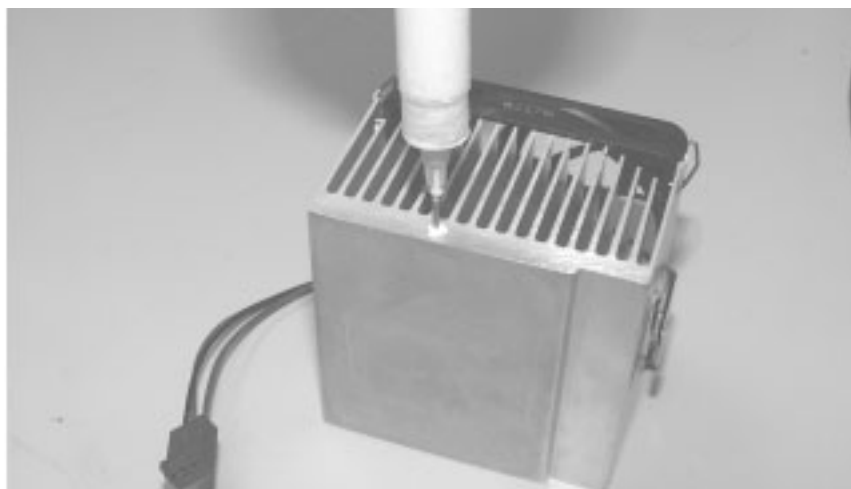

Figure 9. Injecting Thermal Grease into Drilled Hole
3. Inject thermal grease into the newly drilled hole with a syringe as shown in Figure 9. Use Dow Corning 340 white thermal grease or its equivalent.